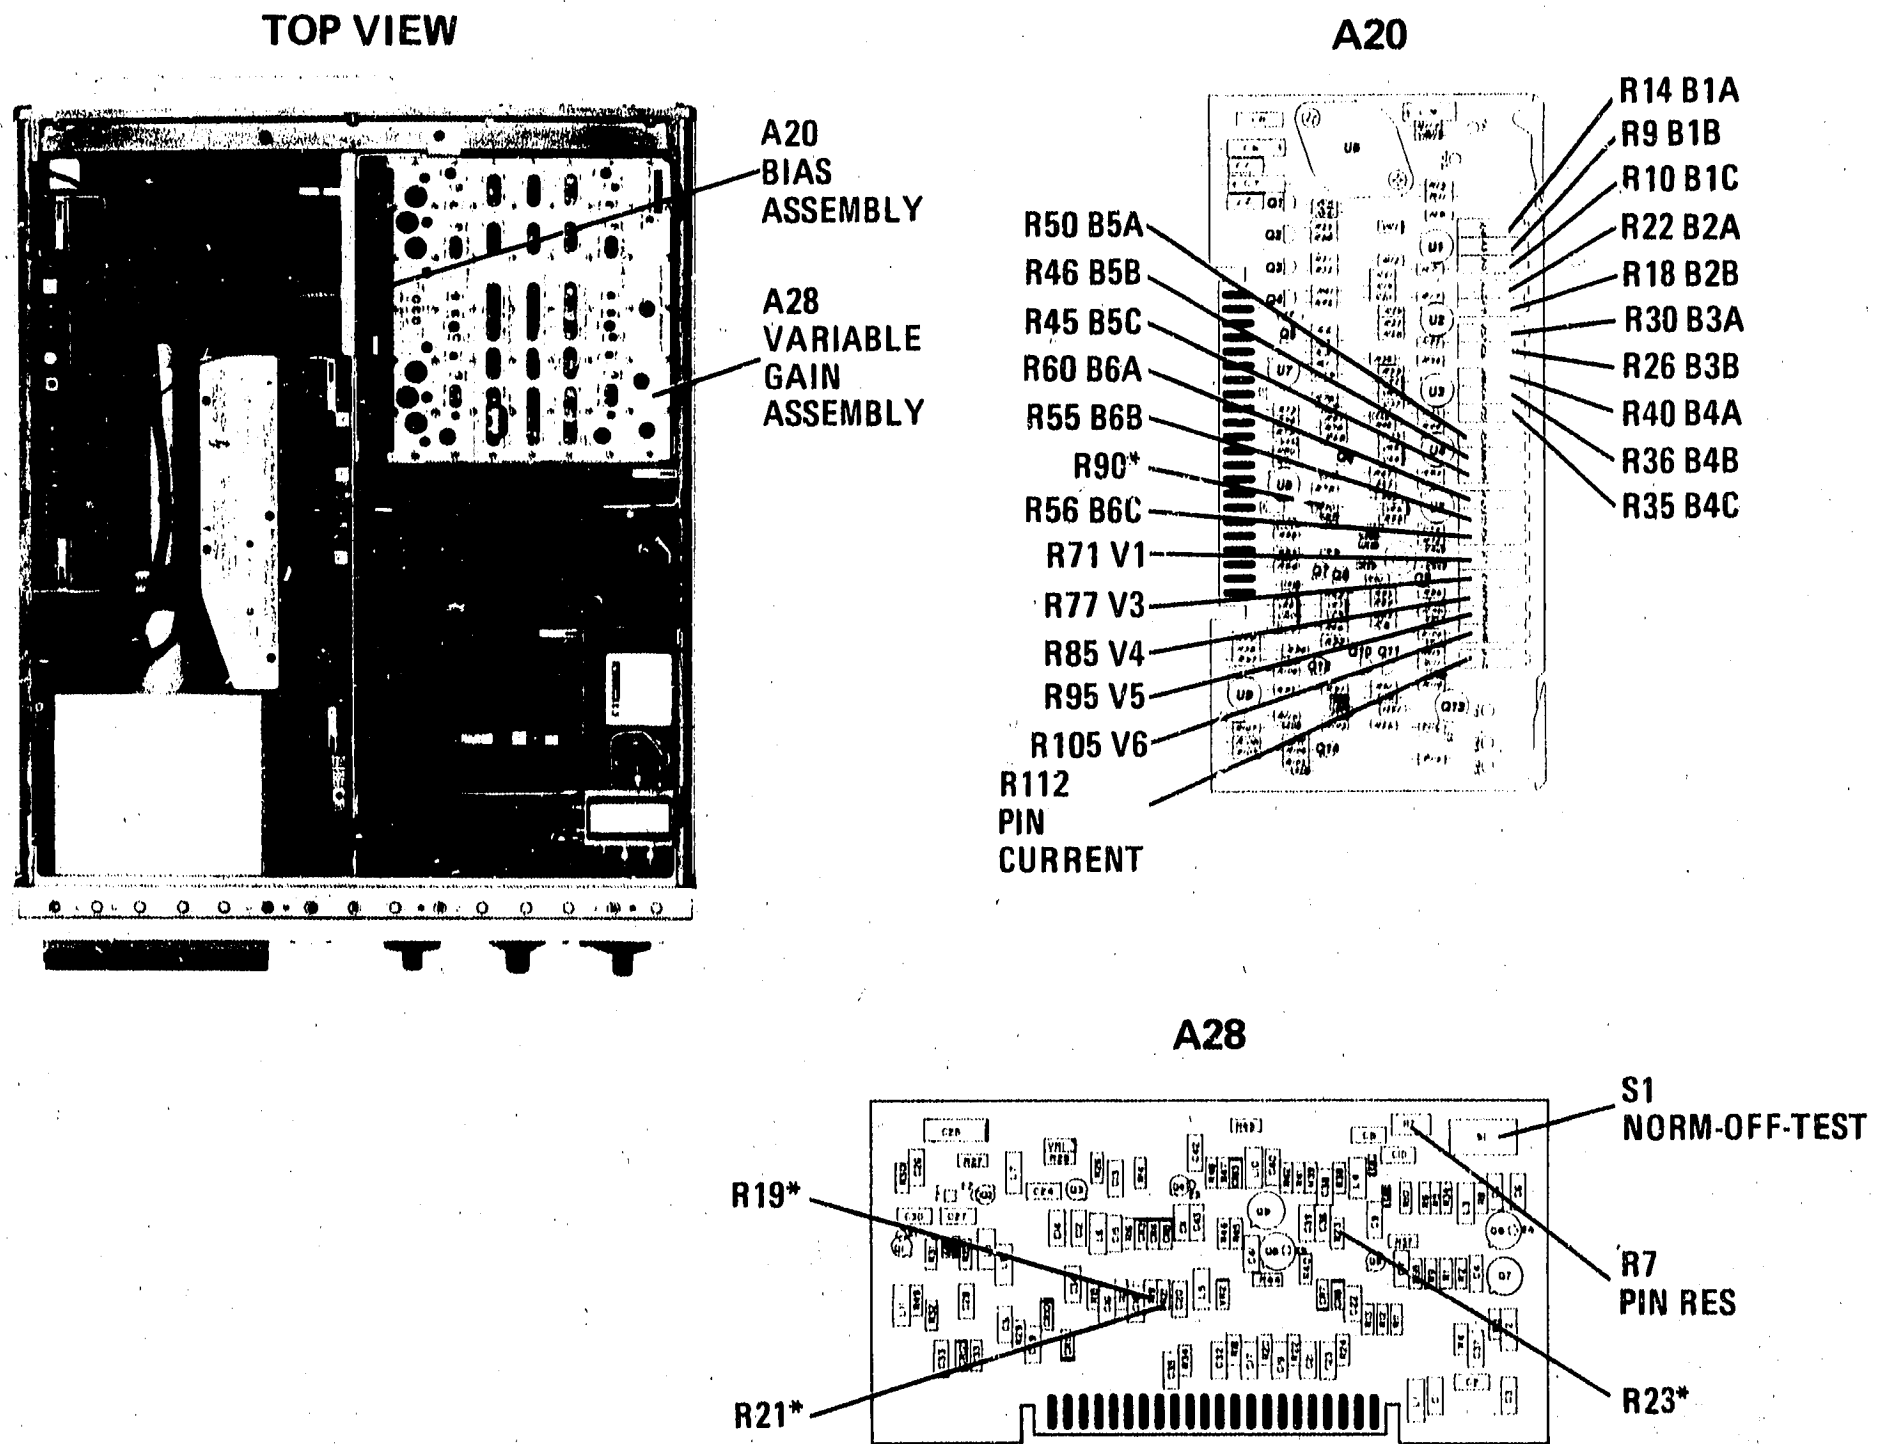

Figure 5-55. Frequency Response Adjustment Locations
5. Set A28S1 NORM-OFF-TEST switch (Figure 5-55) to OFF. Store signal level on screen by setting TRACE B to STORE VIEW after at least one complete sweep.